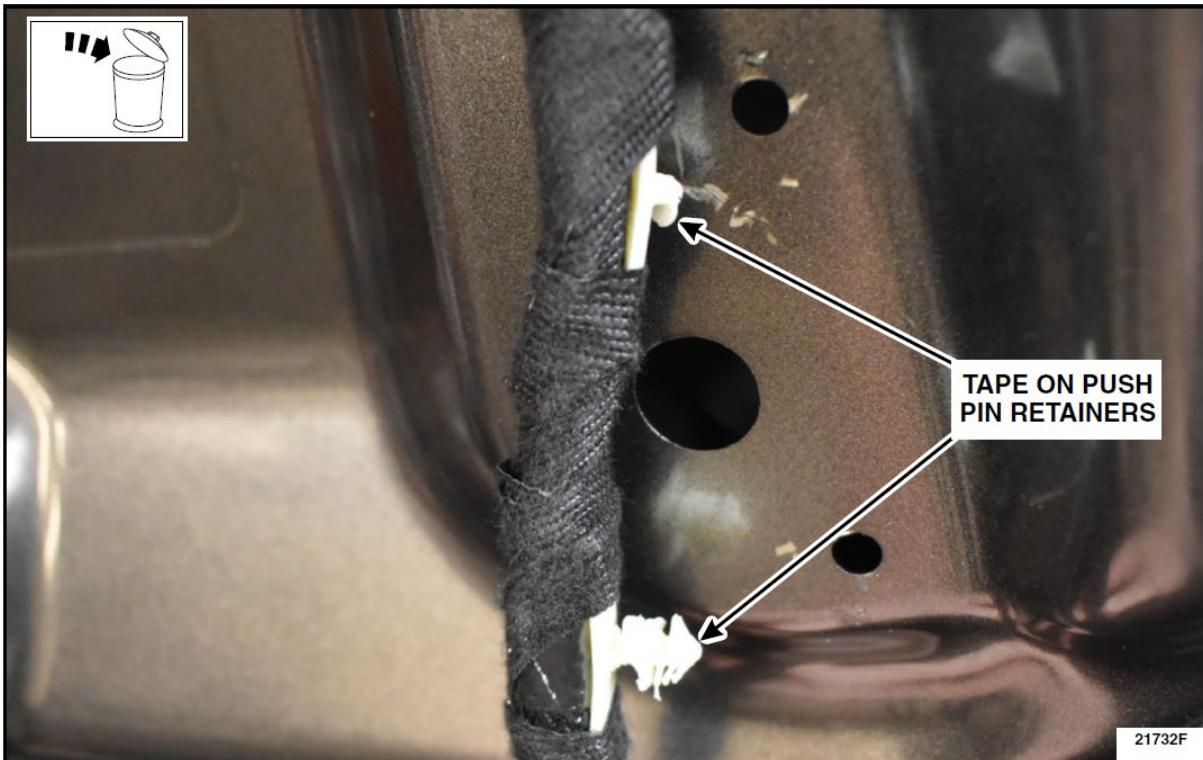

FIGURE 33
46. Remove the tape and discard the 2 wire harness tape on push pins retainers. See Figure 33.